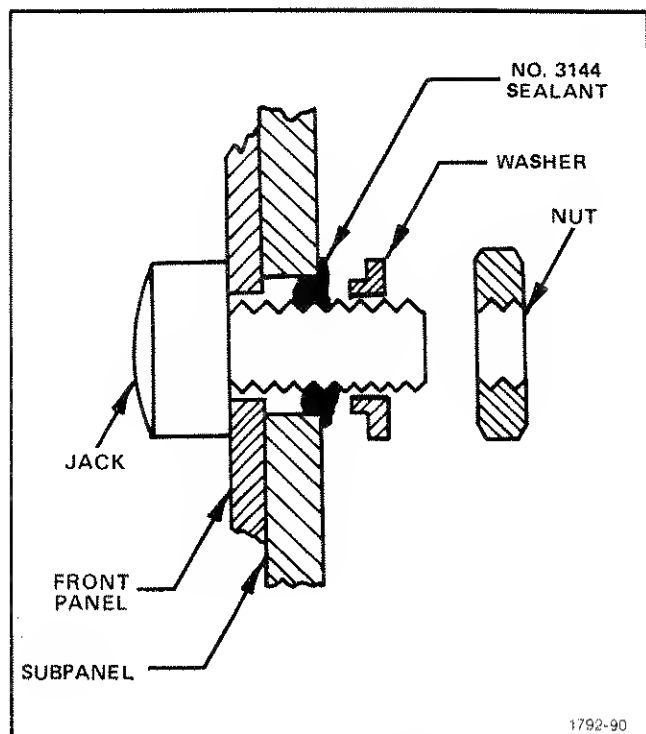

Fig. 5-37. Detail of front-panel jacks.
31. Watertight sealing procedures for the Front Panel jacks of the X-Y Output Module, 016-0606-00, (see Fig. 5-37)
3. Form a bead of No. 3144 Sealant around the Jack/Subpanel interface as shown in Fig. 5-37.